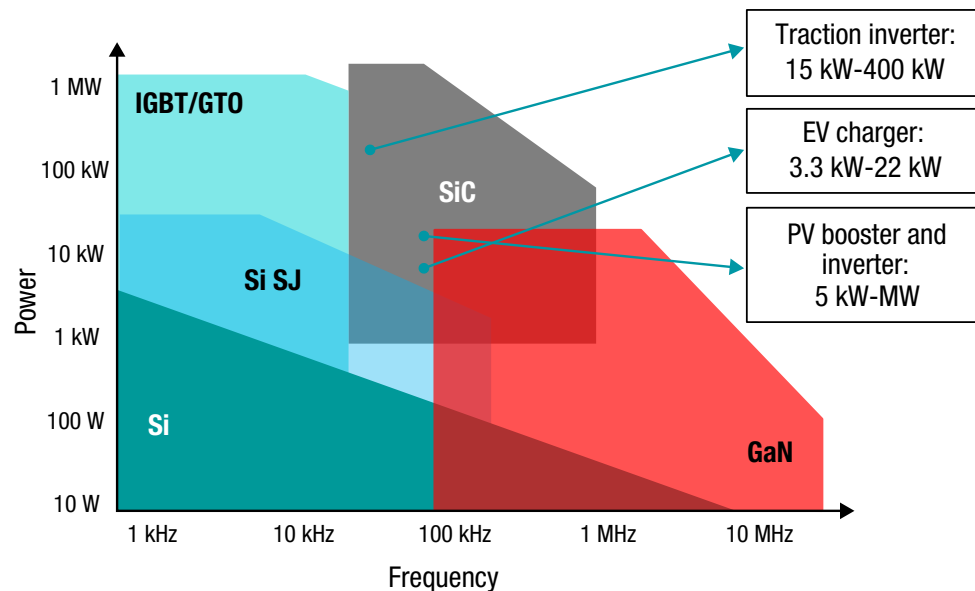

Figure 1: Power semiconductor device applications based on power and frequency levels
Specifically, applications with bus voltages >400 V require device voltage ratings >650 V to leave sufficient margin for safe operation. Applications including industrial motor drives, electric vehicles/hybrid electric vehicles (EVs/HEVs), traction inverters and solar inverters for renewable energy are at the power level of a few kilowatts (kW) to a megawatt (MW) and beyond. Applications for SiC MOSFETs and IGBTs are at similar power levels, but split as the frequency increases, as shown in Figure 1.